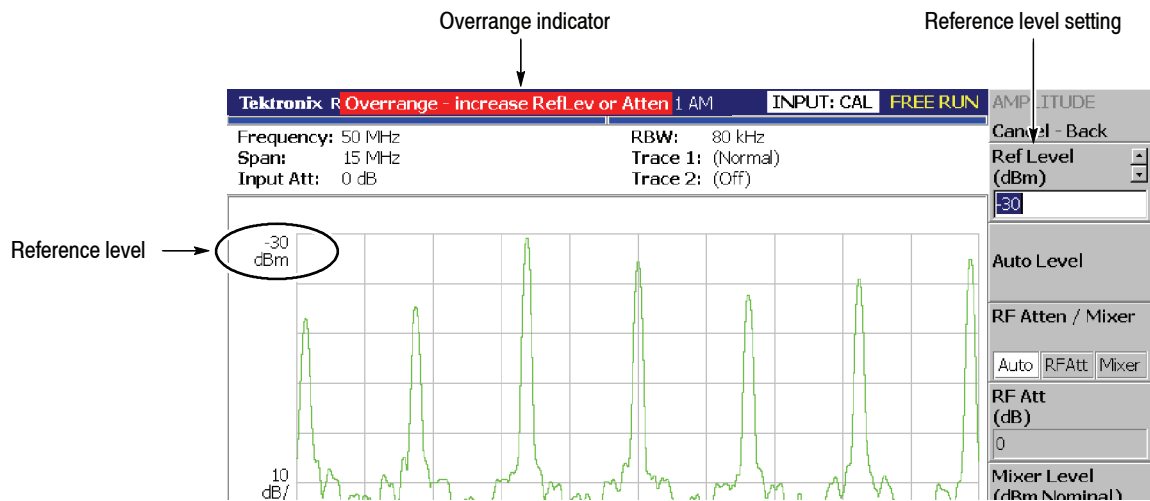

Figure 3-3: Reference level setting and overrange indicator
- b. Make sure that the reference level is set to 0 dBm with the **Ref Level** side key. Check that 0 dBm is displayed on the upper left side of the graticule (see Figure 3-3).
- d. Confirm that “Overrange - increase RefLev or Atten” is indicated in the red box at the top center of the screen. Make sure that -30 dBm is displayed on the upper left side of the graticule and that the spectrum waveform is distorted as shown in Figure 3-3.